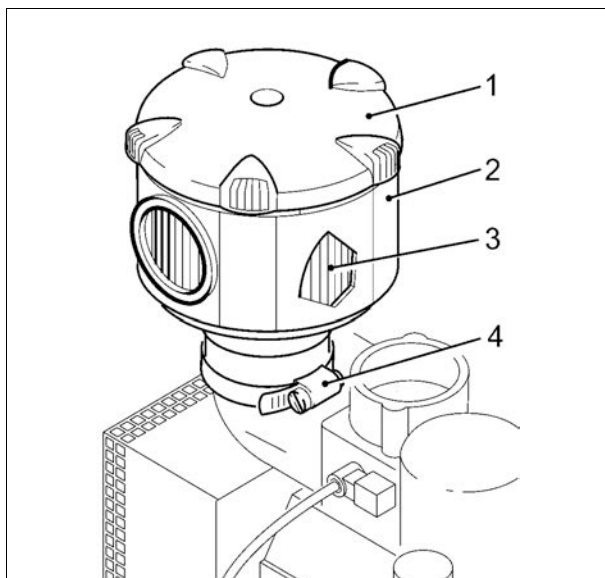

Fig. 21 L15-L22
- Loosen and remove the air filter housing cover (- 1 - Fig. 21)
- Remove the air filter (- 3 - Fig. 21) and replace it with a new one
- Insert the air filter cartridge into the air filter housing (- 2 - Fig. 21)